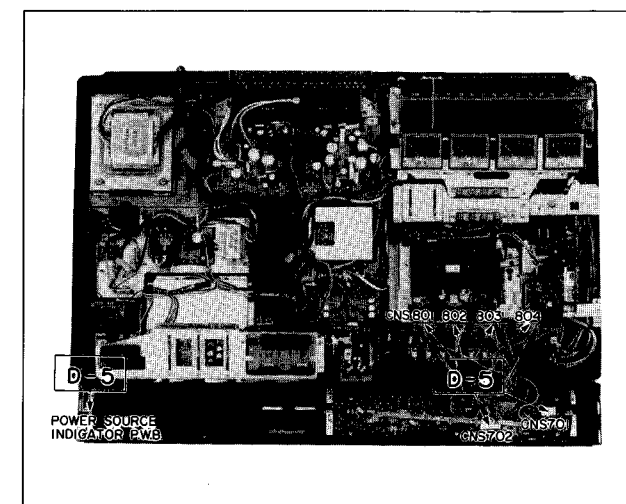

Figure 4-2
5. Remove the screw retaining the power source indicator P.W. Board and disconnect six sockets (CNS701-7 Pin, CNS702-9 Pin, CNS801-12 Pin, CNS802-10 Pin, CNS803-18 Pin, CNS804-12 Pin). (Fig. 4-2)